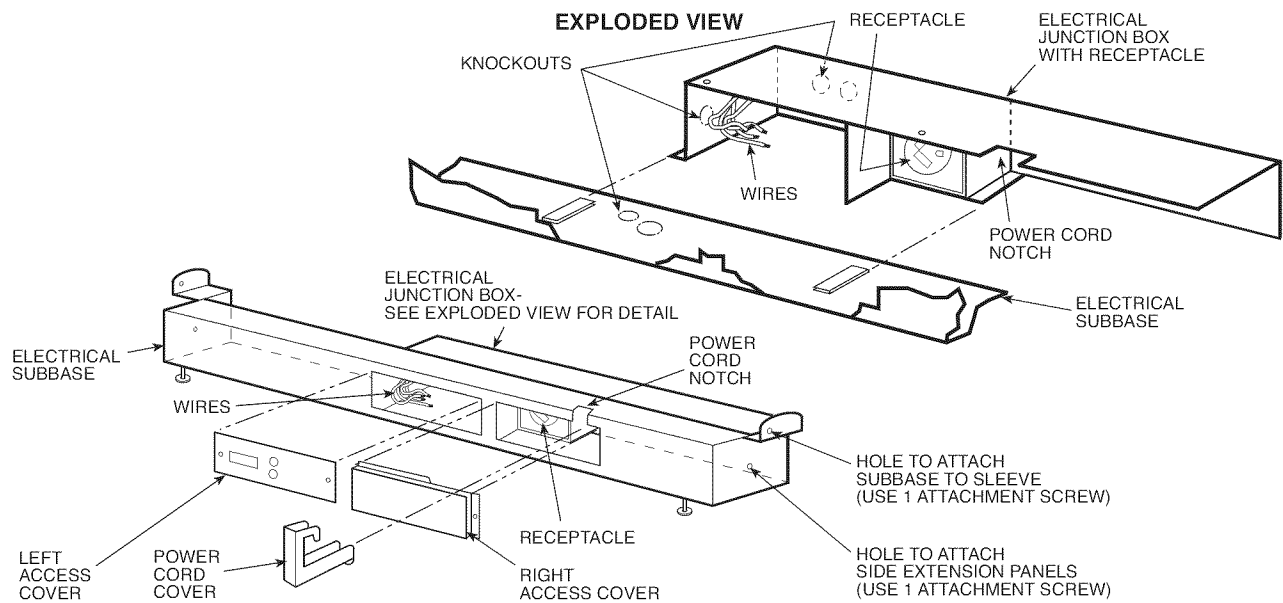

Fig. 4 – Electrical Subbase - Exploded View
Step 5 —Bring power into the subbase electrical junction box using one of the knockouts for conduit connections. See Fig. 4.
Step 6 —Take larger, left access cover off and use field supplied wire nuts to connect power to receptacle wires. Replace cover. See Fig. 4 and 5.
Step 12 — Attach receptacle access cover to subbase with 2 black screws provided, capturing end of power cord cover. See Fig. 4. See Fig. 7 for completed assembly.